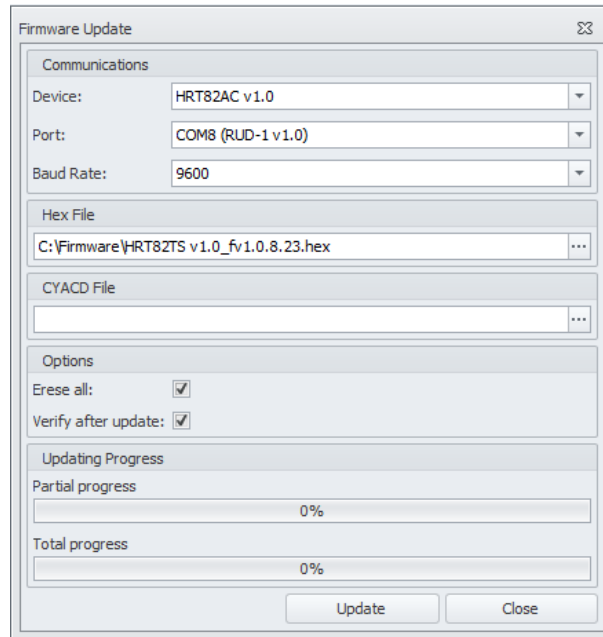

Fig. 8 Firmware update window in RogerVDM software
5. In the opened window select device, port with connected RUD-1 and specify path to firmware file (*.hex) – see fig. 8